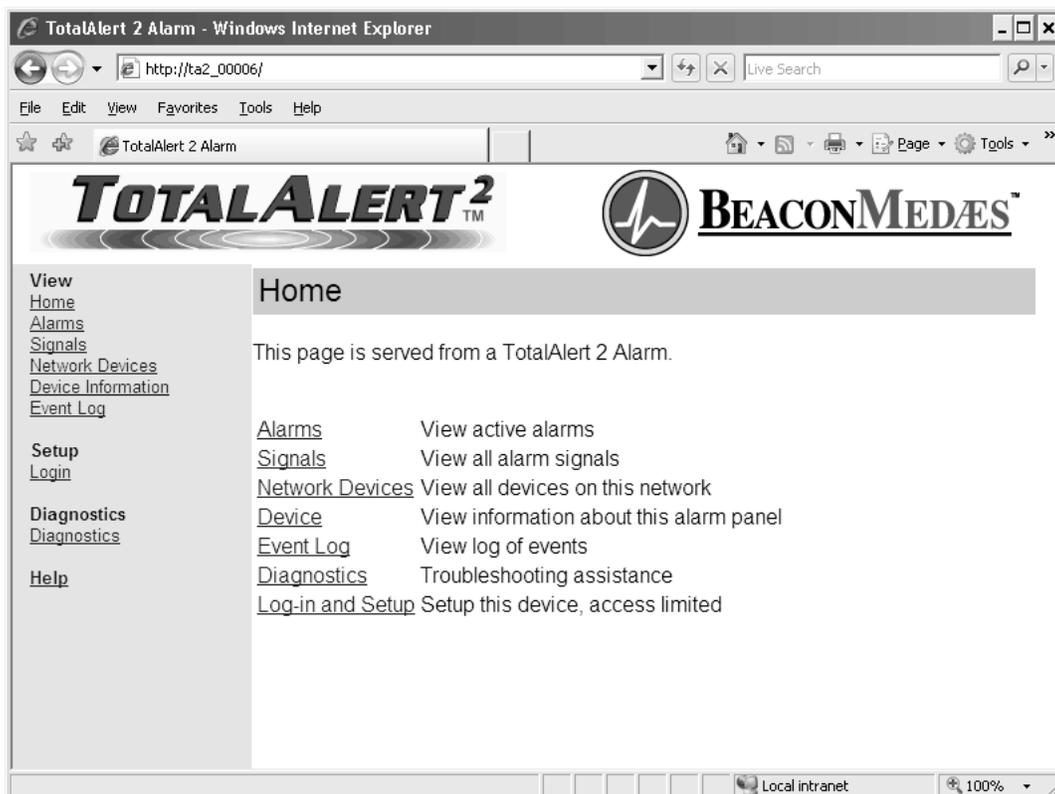

Figure 56: Typical alarm panel home page
3. After you enter the device name or IP address, the alarm's home page will be displayed (Figure 56).